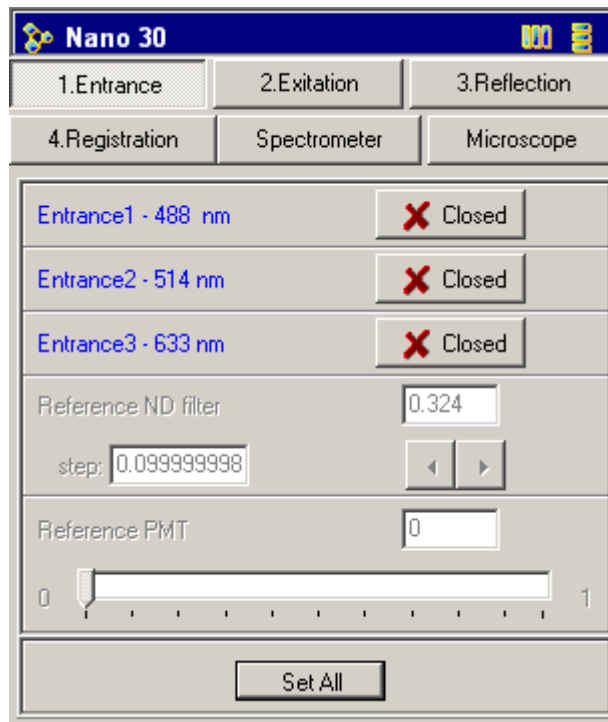

Fig. 10-26. **1. Entrance** tab of the **Nano 30** dialog
1. Click the  button in the Instrument Parameters Adjustment panel to open the **Nano 30** dialog (see Fig. 10-26).
2. Switch to the **1. Entrance** tab by clicking the corresponding title (see Fig. 10-26).